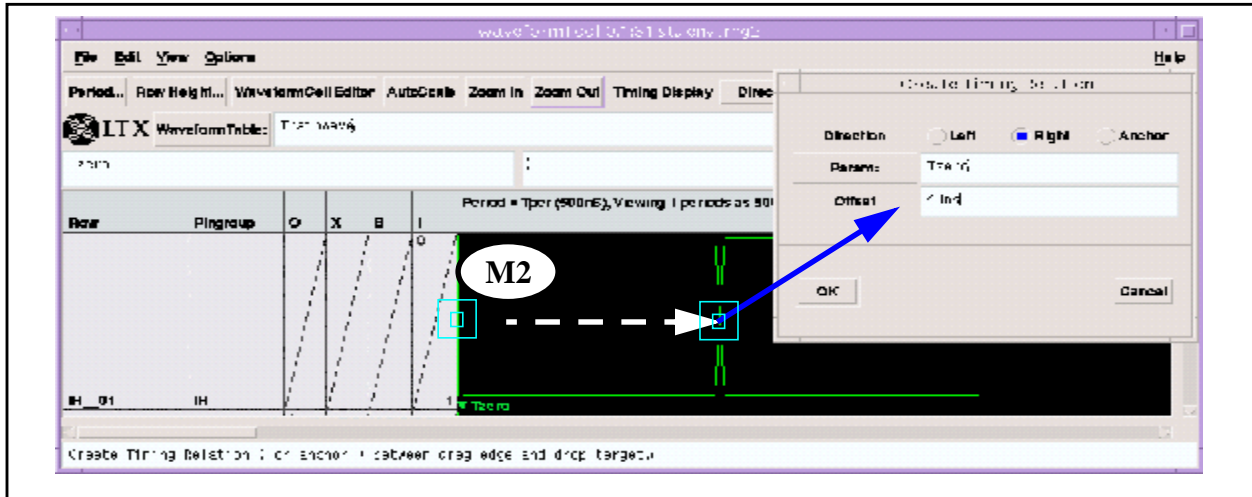

Figure 2.35: Creating a Timing Relation
6. The Create Timing Relation popup appears, where you select a parameter or type in an offset value; see Figure 2.35. The Timing Relation icon is a pointing left/right triangle next to the timing expression or value; refer to Timing Relationships.